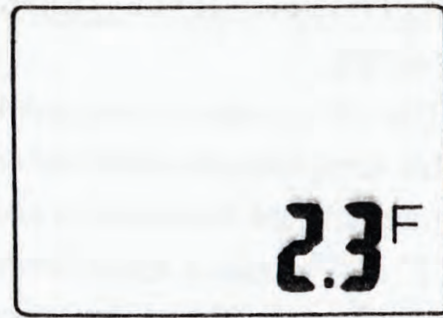

FIG 9
3. The formula to get the right calibration is $T_c = T_o + T_m - T_s$, T_c stands for final deviation value shown in the display (Fig. 9). T_o stands for initial deviation value shown in the display (Fig. 7).
lease the key when it display “2” (Fig. 8). Press NX/td key, the “Y” will be flashing now. Hold on MN/MX, it will change from 0-9. Release the key when it displays “3” (Fig. 9). Press PRG until it displays “SA” (Fig. 10). Turn off the machine and finish the temperature calibration. If you turn on the meter now, it will display Fig. 11.
1. Power off. Push ON & PRG at the same time and hold till the LCD displays CAL (Fig. 6). As ON & PRG are released, the LCD will display a number X.Y (Fig. 9).